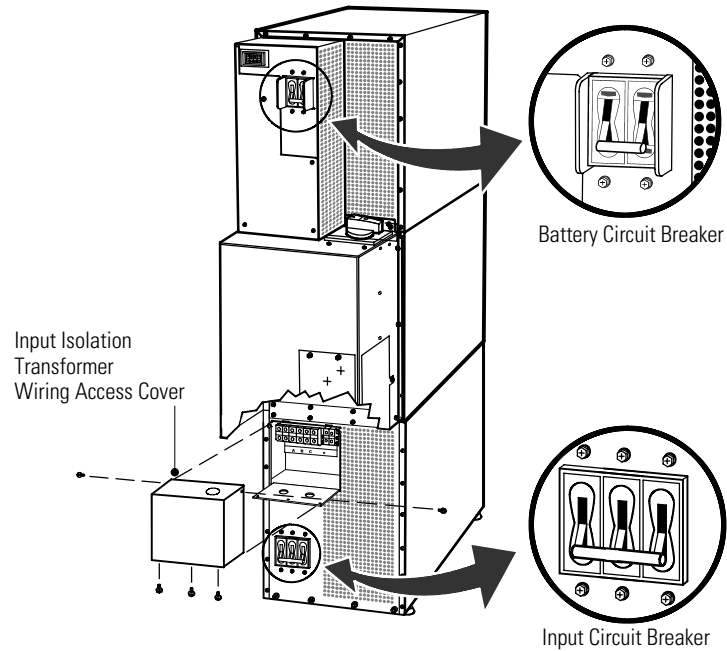

Figure 12. UPS with Input Isolation Transformer Rear View
10. Verify that the input circuit breaker is in the OFF position (see Figure 12).